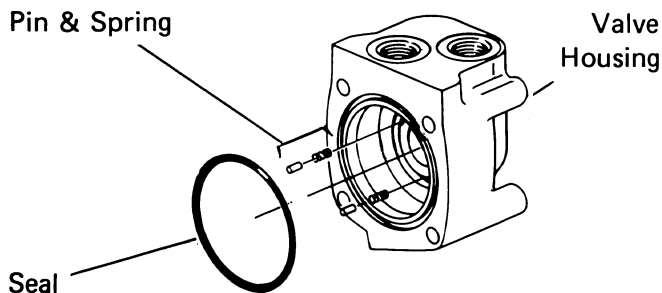

Figure 14
**35** Install 2 springs and 2 pins in the holes located in the bore of the valve housing, as shown in Fig. 14.